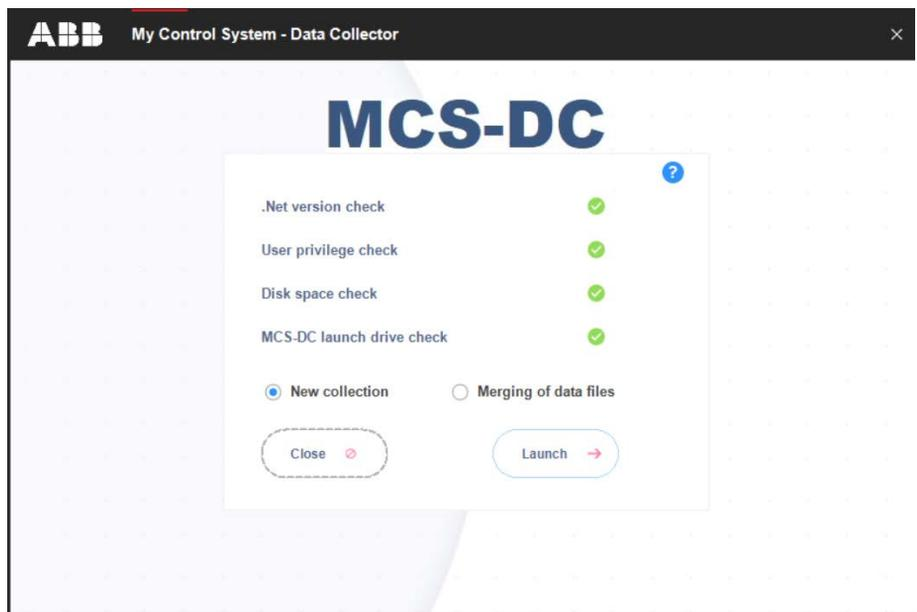

Figure 53. Launch Node Checks
2. Double-click the **MCS-DC\_Launcher.exe**, to launch the tool. It is present inside the unzipped MCS-DC folder. The initial screen appears as shown in Figure 53. MCS-DC tool runs the below checks on the launch node. If the checks are passed, a Green tick mark is shown, click the **Launch** button to proceed with data collection. If the checks fails, a Red cross mark is shown, user has to fix the issue and launch the MCS-DC tool again.